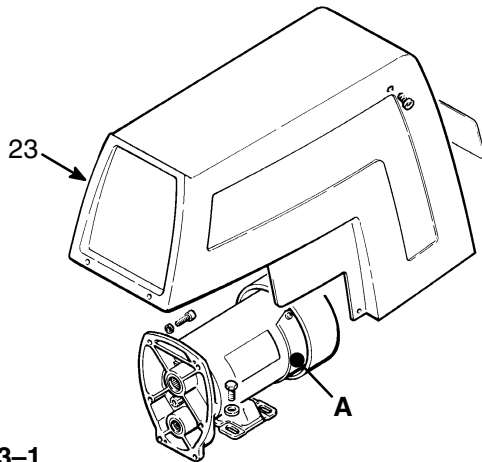

Fig 23-1
1. Remove the motor shield (23). Remove the inspection covers (A) and gaskets on each side of the motor. Refer to Fig 23-1.
11. Install the brush inspection covers (A) and gaskets. Install the motor shield. See Fig 23-1.